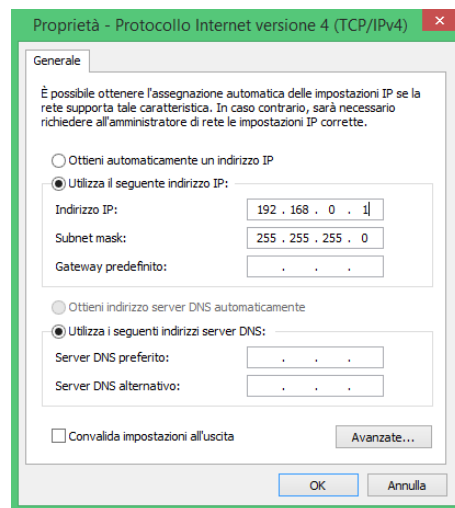

Fig.15b
- Internet Protocol vers. 4, you have to flag as in Fig. 15b and enter the IP 192.168.0.1